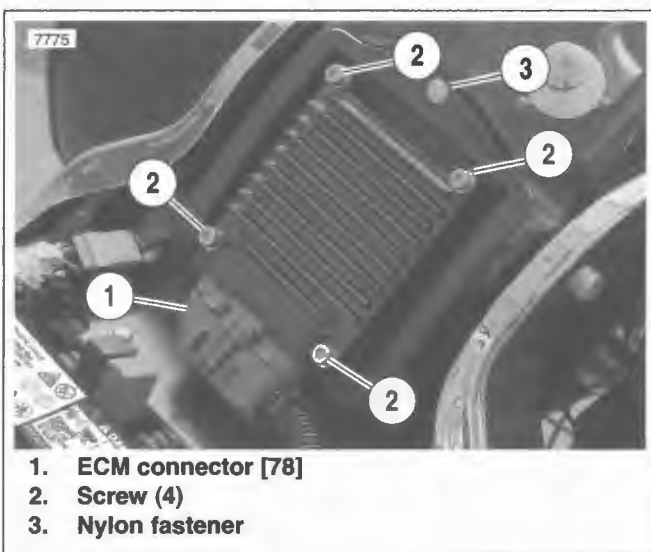

Figure 2-130. ECM Mount
6. See Figure 2-130. Remove nylon fastener (3) from electrical box (2).
4. See Figure 2-130. Install nylon fastener (3) into electrical box (2) and fender. Install saddlebags if equipped.